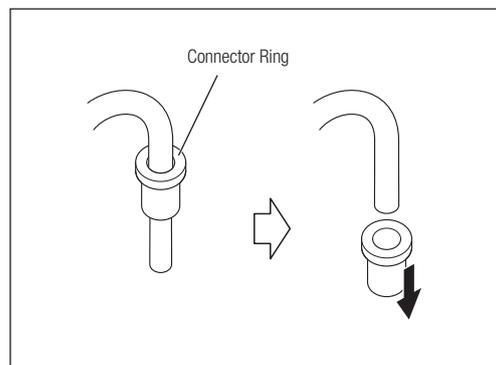

Fig. 52
- 4) Remove the Connector Ring from the Irrigation Tube. Do not dispose of it. You can use the Ring on the replacement Irrigation Pump (Fig. 52).